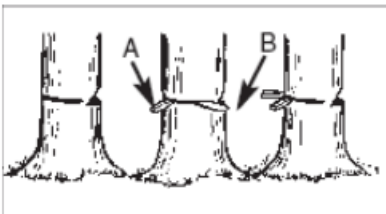

Fig 10c
Use wooden or plastic wedges (A) to prevent the bar or chain (B) from getting caught in the cut. The wedges also control the fall (Fig. 10c)